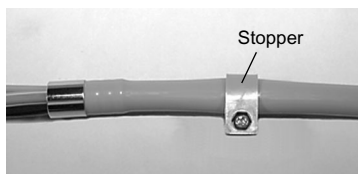

Fig. 6
- 4) If your existing tubing is fixed to the inside of unit, use the stopper provided as shown in Fig.6.